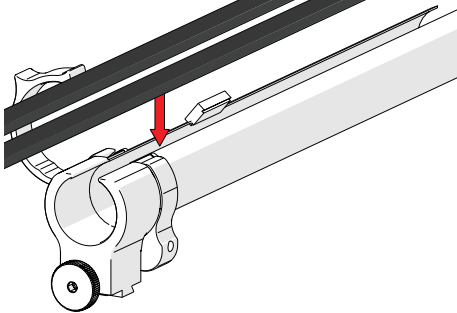

Fig. 95 - Insert cables and hoses
1. Open the zipper of the cable management. Begin at the tube's dovetail mount and place the cabling in the tube (*Fig. 95*).